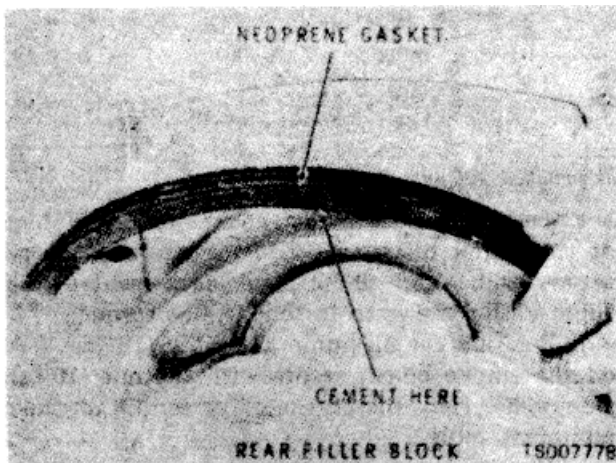

Figure 9-14. Installing Neoprene Gasket on Rear Filler Block.
- a. Install the gasket (6, fig. 9-13) on the rear filler block (28, fig. 9-26) by placing a drop of nonhardening cement in the middle of the gasket and pressing the gasket into the groove in the filler block (fig. 9-14).